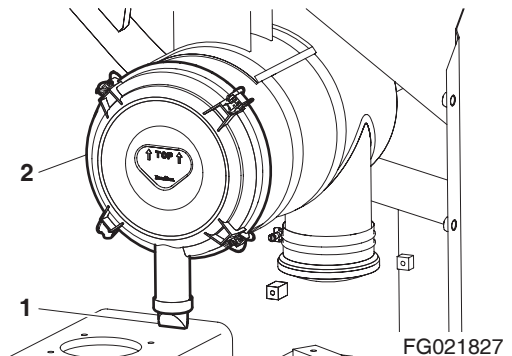

Figure 73
2. Remove and clean rubber evacuator valve (1, Figure 73) from bottom of air cleaner housing cover (2). Inspect seal lips for wear or damage. Replace valve if necessary.